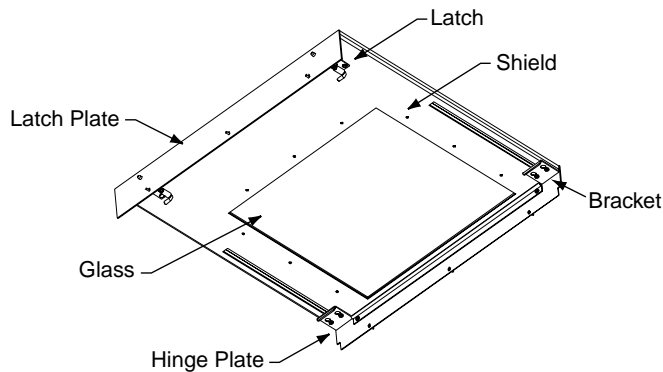

Figure 1
- ① Read instructions completely before proceeding.
- ② Follow instructions carefully. Installation contrary to instructions invalidates warranty.
- ③ Keep body parts out of the Revelation door opening while power is connected to the Revelation. Serious injury could occur if door closes.
- ④ Make sure power is disconnected BEFORE beginning installation. Do not make adjustments while power is connected.
- ⑤ Take great care when handling glass shield. If cleaning is necessary, do so very lightly with glass cleaner and a soft, lint free cloth.
- ⑥ Use caution when working near first surface mirror. Do not allow glass shield to come in contact with first surface mirror.
- ⑦ Make sure glass shield is up before operating Revelation.
- ① Unpack and inspect the Revelation Glass Shield for damage (see Fig. 1).